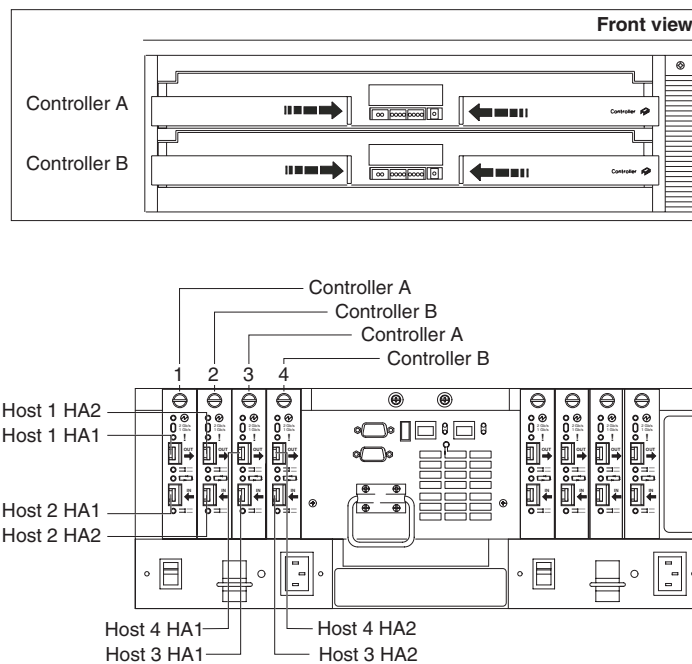

Figure 35. Connecting hosts directly to the controller
1. Connect the first host (Host 1) to the FASi700 Storage Server, as shown in Figure 35.
2. Connect a second host (Host 2) to the FASi700 Storage Server, as shown in Figure 35.
3. Connect a third host (Host 3) to the FASi700 Storage Server, as shown in Figure 35.
4. Connect a fourth host (Host 4) to the FASi700 Storage Server, as shown in Figure 35.